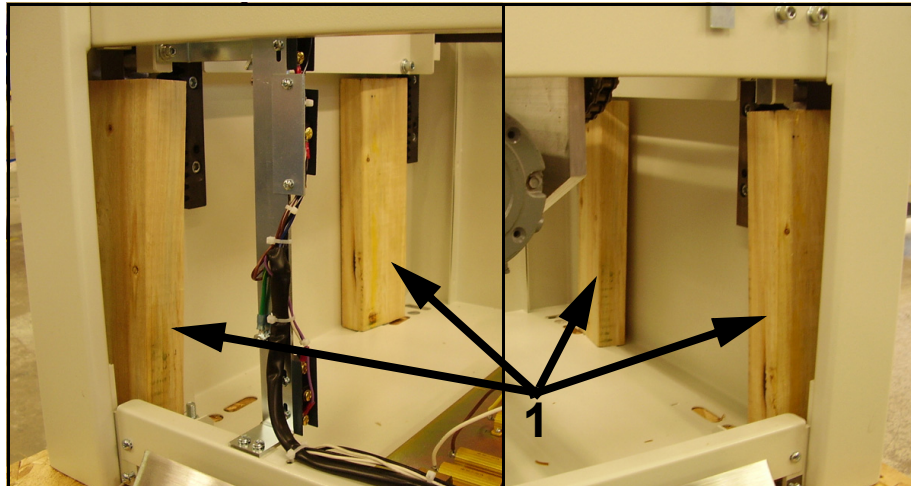

Figure 6-28. Braces in place under the upper frame gear racks
- 4 Position the four 2"x4" braces (1 in Figure 6-28) under upper frame gear racks as shown below.